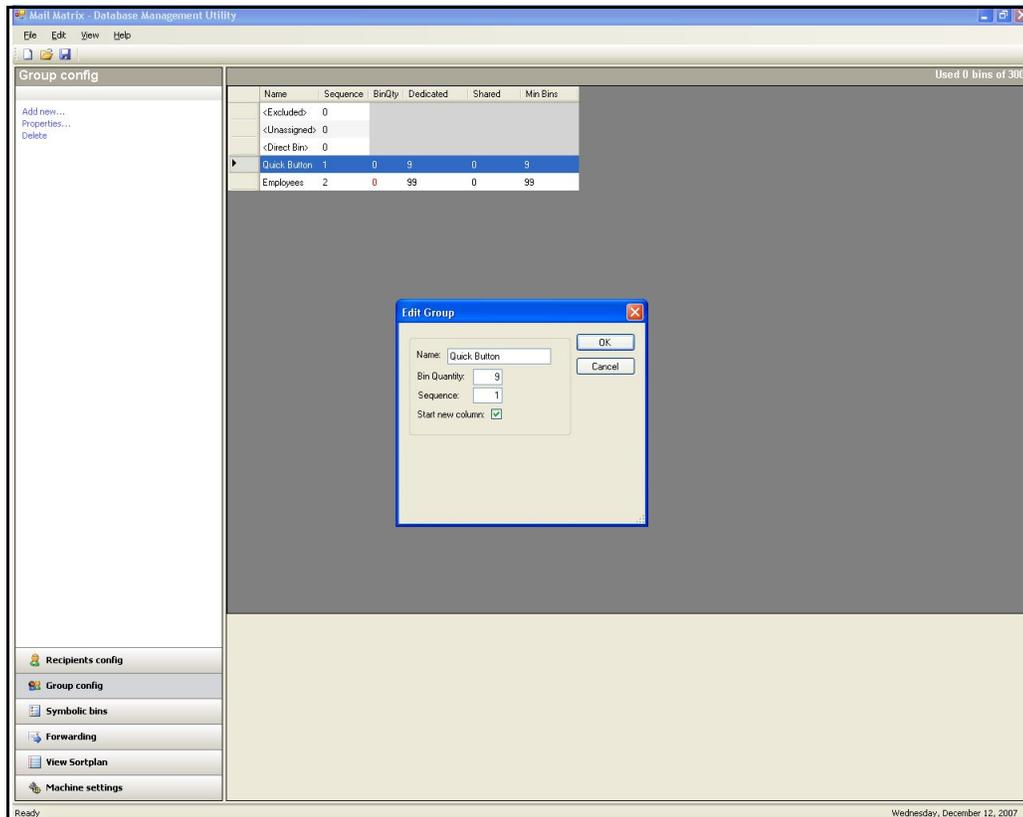

Figure 171: Dedicating bins for the Quick Button group
- b. Enter the number of bins you need to dedicate to this group in the BinQty field. Since we have 9 recipients in our Quick Button group, we will dedicate 9 bins for this group (Figure 171).